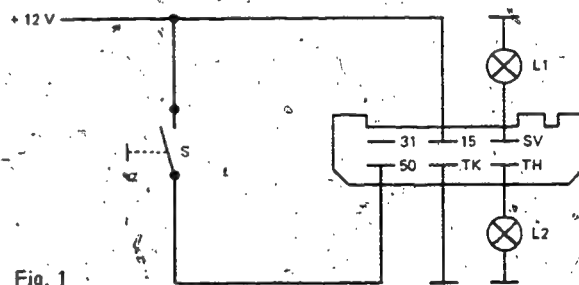

Fig. 1
1. Connect up the time-lag relay as shown in Fig. 1. Test lamps must not light up. Press the normally open contact S. Both test lamps must light up and burn further after the opening of the normally open contact.